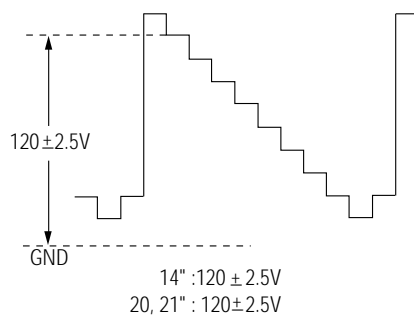

Fig. 4-1
4. Adjust the Screen VR (on the FBT) so that the voltage on the oscilloscope becomes  $120 \pm 2.5V$  (See Fig. 4-1).